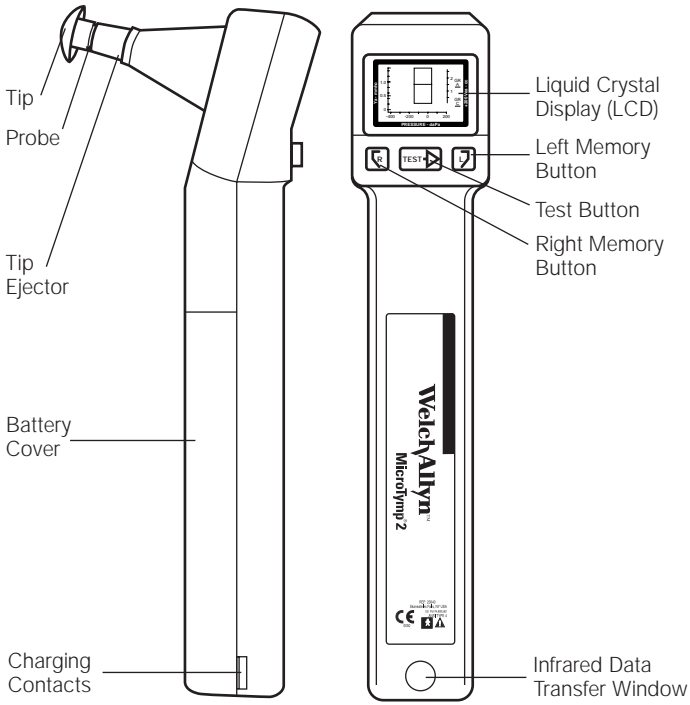

Figure 1A
- Plug the power cord into the receptacle in the rear of the Printer/Charger. Then connect the power cord to a receptacle of proper voltage, frequency, and plug type. The green POWER  indicator will illuminate to indicate that the Printer/Charger is operating properly. See **Figure 1A and 1B** (pages 2 and 3).